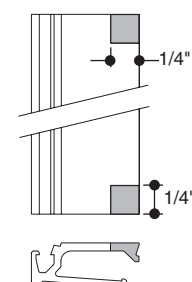

FIGURE 5
STEP 2: Make a 1/4" by 1/4" notch at each end of the vertical glazing adapter. Notch should be made on the face side of the adapter nearest the gasket reglet as shown. (**Figure 5**)